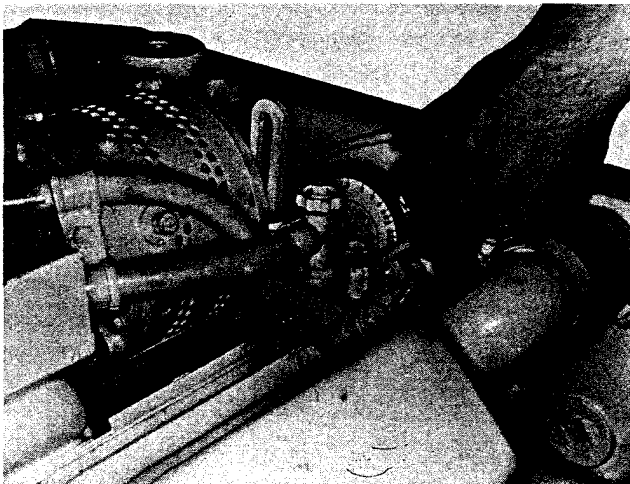

Fig. 2-8, (V11954). Checking belt tension with ST-968
1. Tighten belts up to 1/2 inch [12.7 mm] wide, until a reading of 90 to 110 lbs. is indicated on ST-968 Belt Tension Gauge, (Fig. 2-8). For belts over 1/2 inch [12.7 mm] wide, use ST-1138 Belt Gauge.